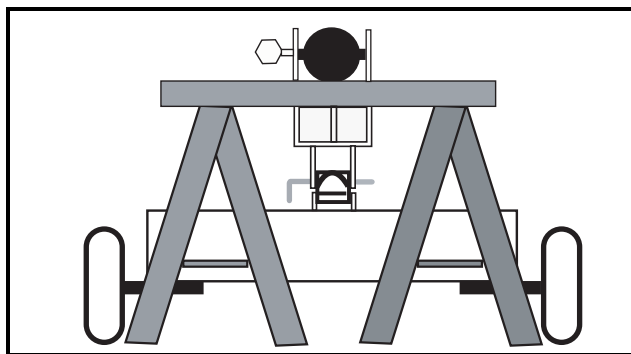

FIGURE 4
20. Support the back end of the cylinder about 5" from the end of the cylinder to keep the cylinder from tipping off the beam when the dislodger is removed in Step 22. Suggested support: Using a pair of saw horses, place one saw horse on either side at the rear of the cylinder. Place a 4" x 4" or two 2"x4"x 4' (screwed together) wood beam across the saw horses. See Figure 4.